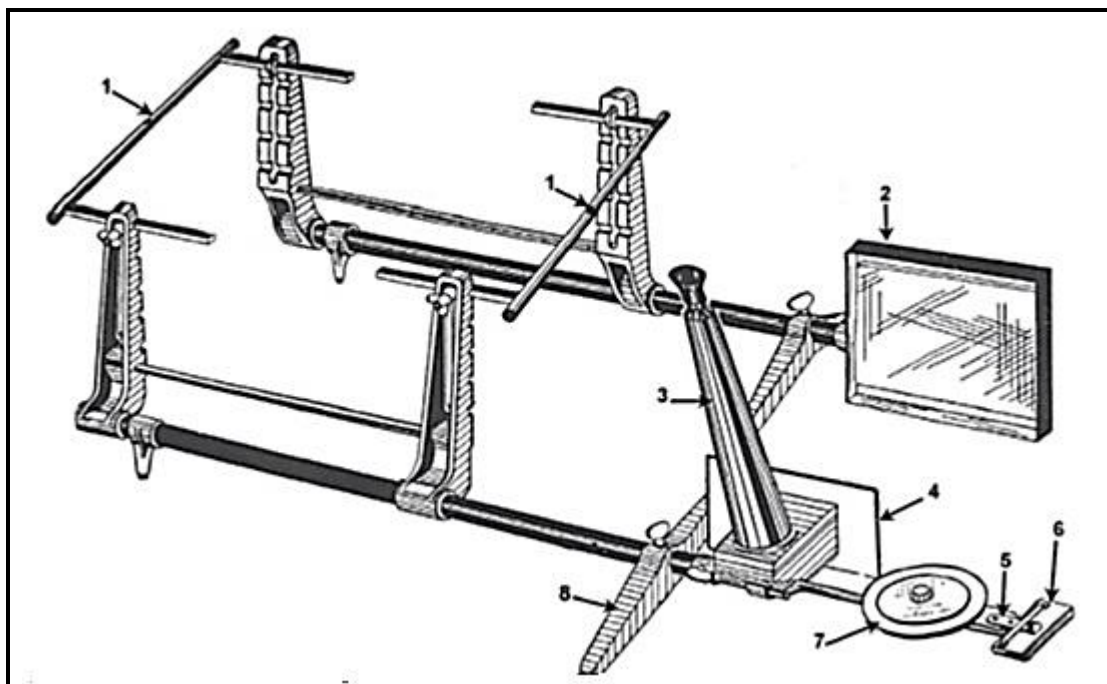

FIGURE 5.2
5.2 The diagram in FIGURE 5.2 below is a periscopic optical alignment tool. Label parts **1–8**.
- 5.3 What is the function of the equipment displayed in FIGURE 5.2? (1)